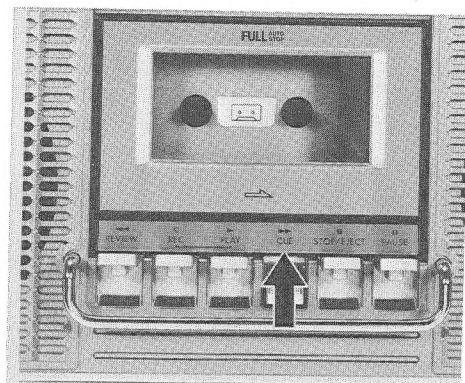

Fig. 20
**Head Cover (Refer to Fig.20)**